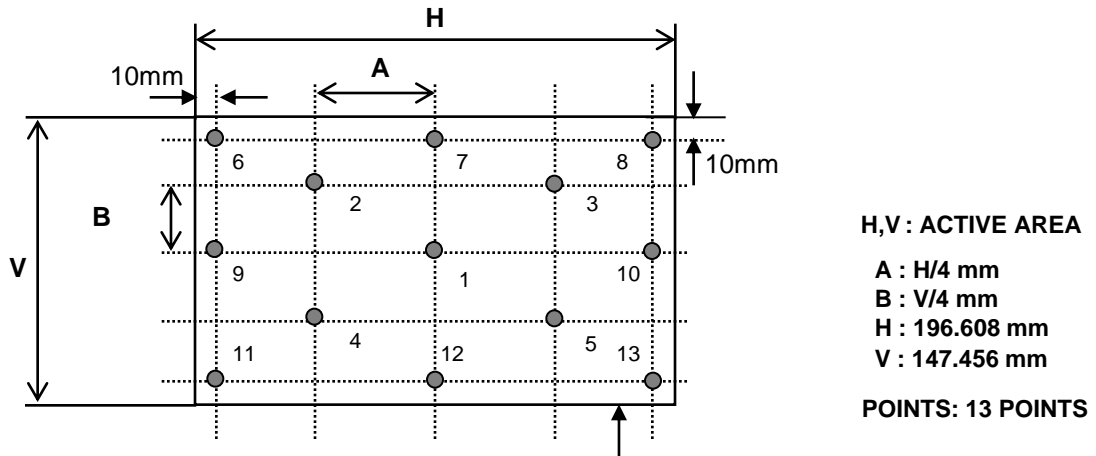

FIG. 3 Response Time
4. Response time is the time required for the display to transition from white to black (rise time, Tr_R) and from black to white(Decay Time, Tr_D). For additional information see FIG 3.